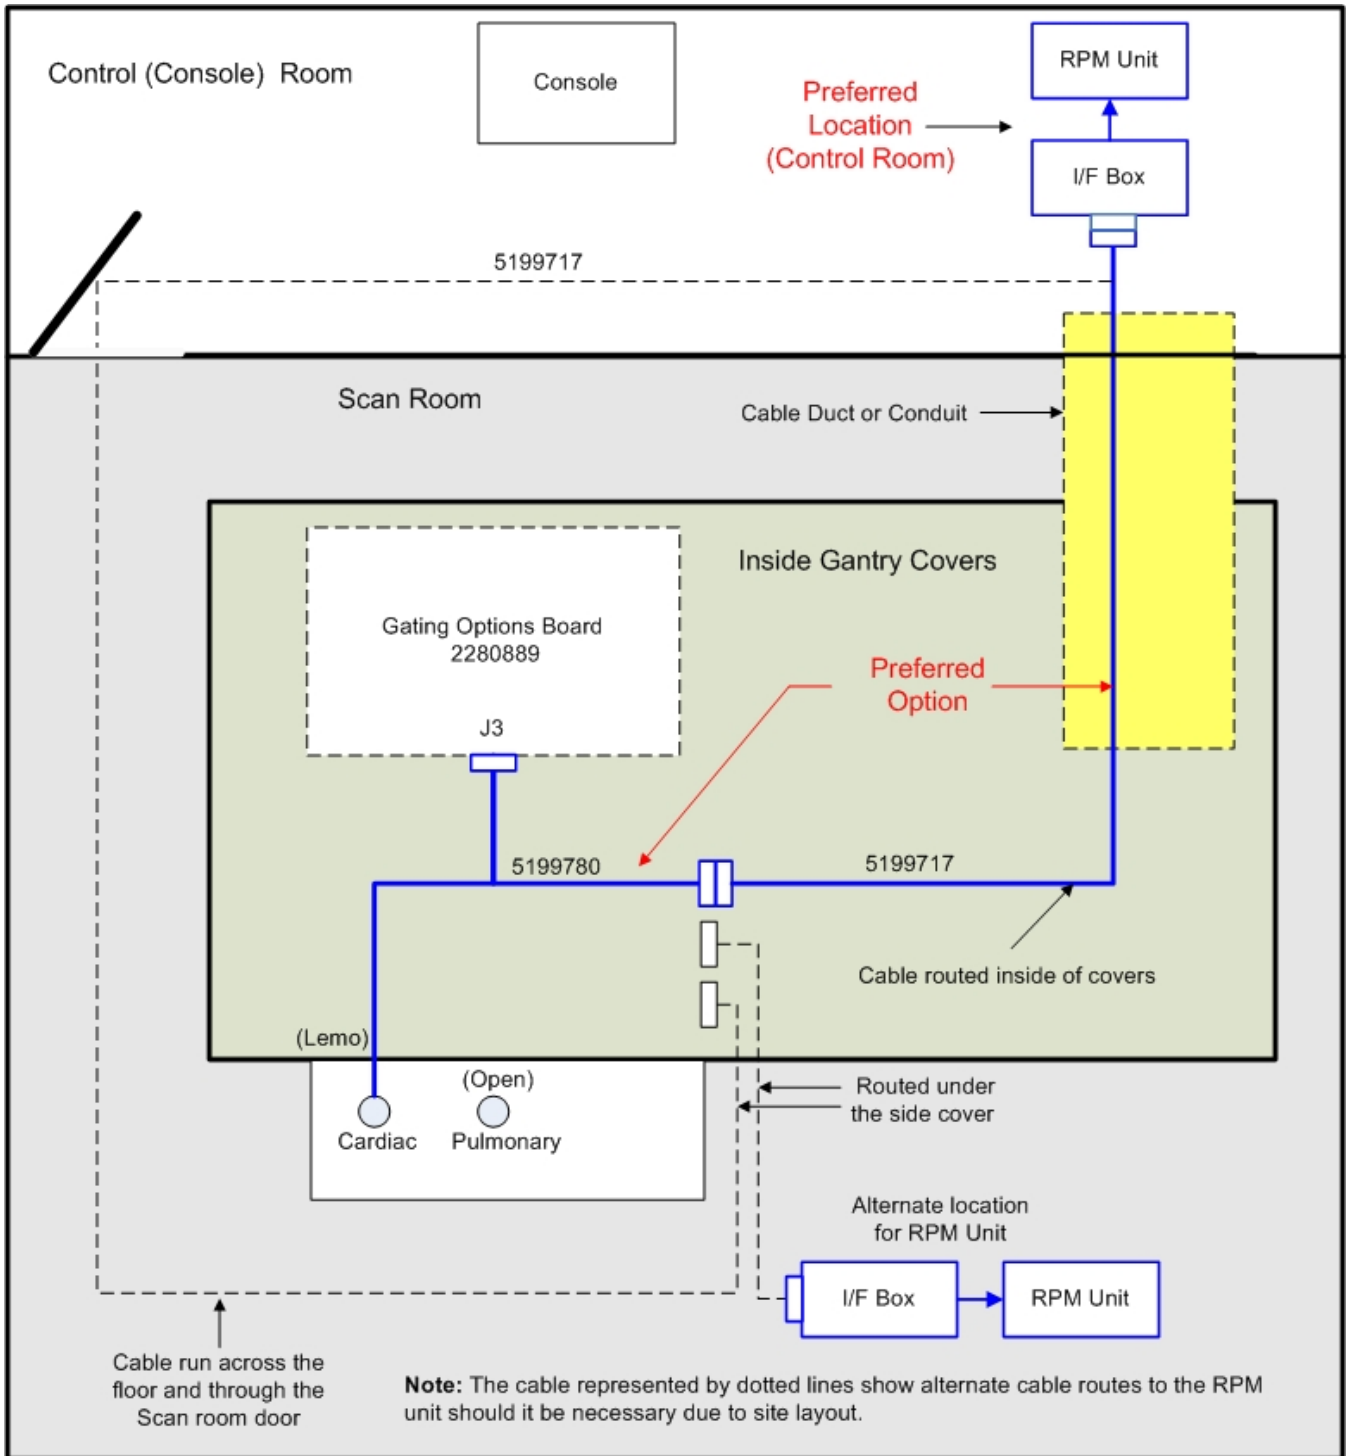

FIGURE 4-3: RPM CABLE ROUTE DETAIL
2. Refer to Figure 4-3 for cable 5199717 routing detail.